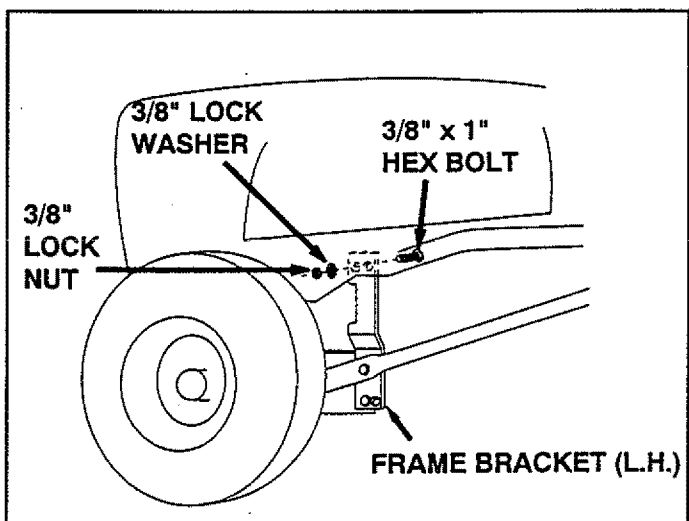

FIGURE 17 (Left Hand Side View)
- Remove the 7/16" x 1" bolt (if present) from the hole located in the side of the tractor frame, below the engine and just ahead of the foot rest. Attach the front hole in the L.H. frame bracket to this hole as shown in figure 17. Use a 3/8" x 1" hex bolt, lockwasher and lock nut. Repeat for other side. **Tighten.** See figure 17.